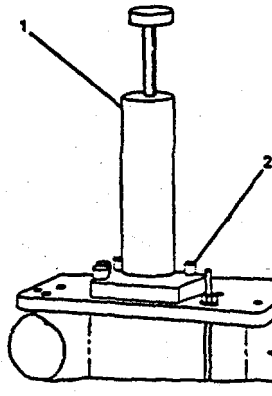

FIGURE 3-50. *Install the Boring Tool.*
- (3) Install the tool bit into the boring bar. Do not completely tighten the setscrew. Install the tool bit adjusting knob into the boring bar. Hold the setting block and indicator against the boring bar so the indicator tip will be over the tool bit. Turn the adjusting knob clockwise to push the tool bit against the indicator tip. Adjust the tool bit until the indicator has the same reading as the tool bit when adjusted on the setting standard. After the tool bit is correctly adjusted, tighten the setscrew and remove the adjusting knob.
- (4) Install the boring tool (1, Figure 3-50) into the guide bushing. The tool bit must go through the slot in the guide bushing. Do not hit the tool bit against the bushing.
- (5) Adjust the travel of the boring bar so the tool bit will go through the guide bushing but not touch the bushing in the pump body.
- (6) Fasten the boring tool to the pump body with capscrews (2). Rotate the shaft to make sure it will turn freely.